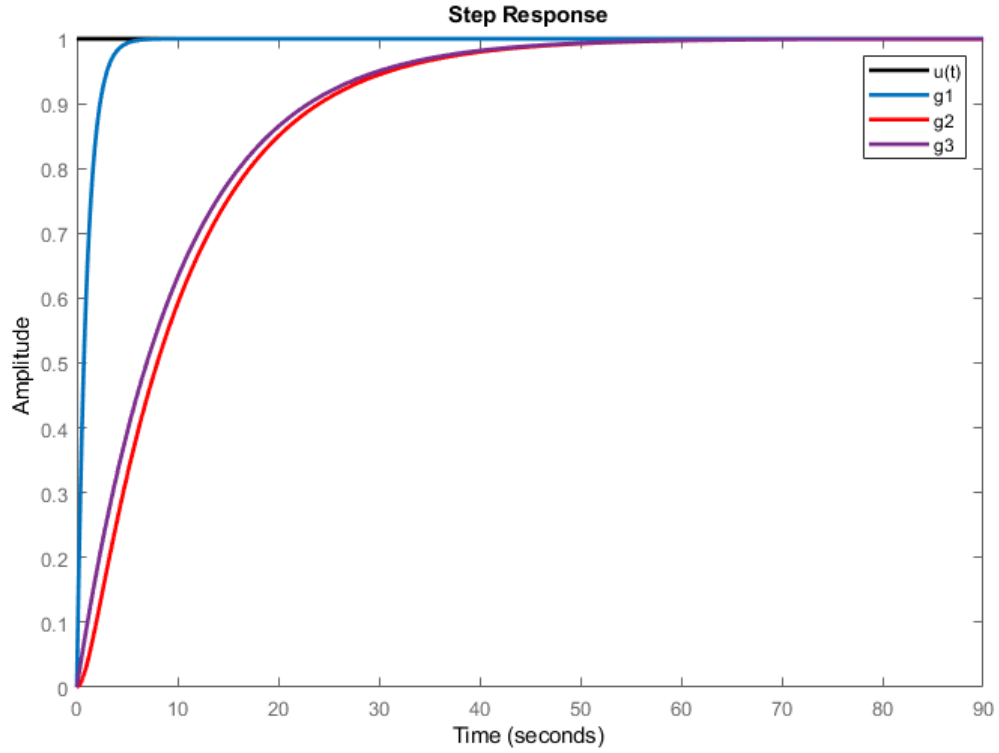

Figure 1: Step Responses of Bare( $G_1$ ) and Sheath( $G_2$ ) Thermocouples
Step responses of bare( $G_1$ ) and sheath( $G_2$ ) thermocouples and the zero time constant approximation for sheath thermocouple( $G_3$ ) can be seen at *Figure 1*.
4. It stated that that the time constant of the bare thermocouple is usually much smaller than the one caused by sheathing. Therefore, one may approximate the overall transfer function as a first order one as can be interpreted from the *Figure 1*.